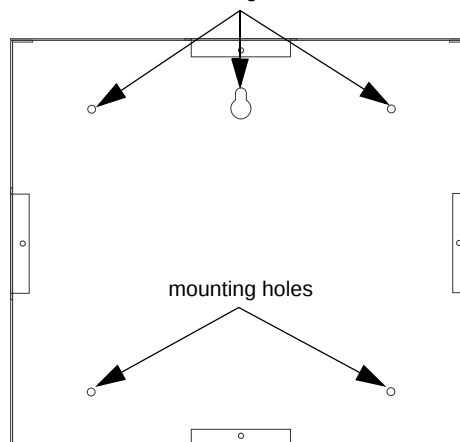

Figure 4.23 RA-2000 Backbox Mounting
2. Mark and pre-drill hole in the wall for the center top keyhole mounting bolt. Refer to Figure 4.23 for mounting hole locations.